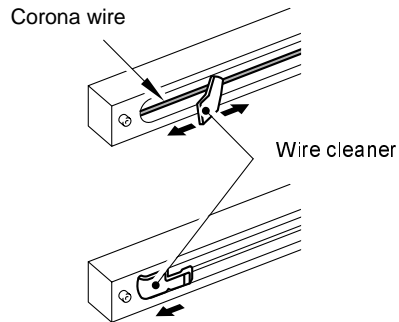

Fig.6-9
- Make sure that the wire cleaner is returned to the home position as shown in Fig. 6-9 after cleaning the corona wire.